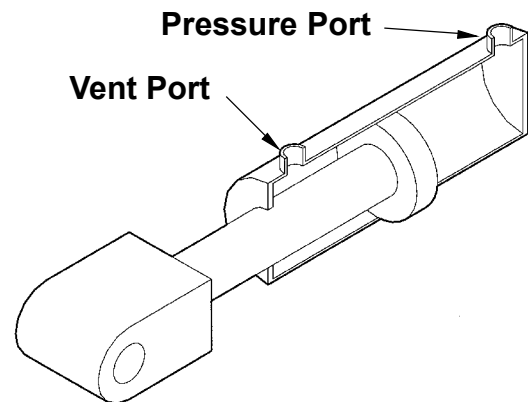

FIGURE 3
3. Check the Hydraulic Cylinder. With the Platform on the ground, remove the Breather Plug or Vent Line from the Vent Port of the Cylinder. Raise the Platform to be level with the bed. If hydraulic fluid streams from the Vent Port, the Piston Seals are worn. Replace the Seals. (**See Fig. 3**).